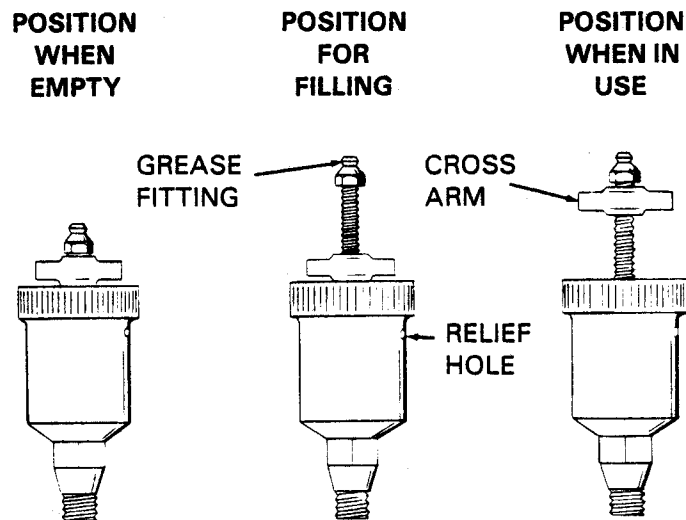

Figure 3. Automatic Self-Lubricating Grease Cup
Before removing the seal assembly, turn the cross arm on the seal grease cup (13) clockwise until it rests against the cover (see figure 3). This will prevent the grease in the cup from escaping after the seal is removed.
Before starting the pump, fill the seal grease cup through the grease fitting with a good grade of No. 2 pressure gun grease until grease escapes from the relief hole. Turn the grease cup arm counterclockwise until it is at the top of the seam; this will release the spring to apply grease to the seal (see figure 3).